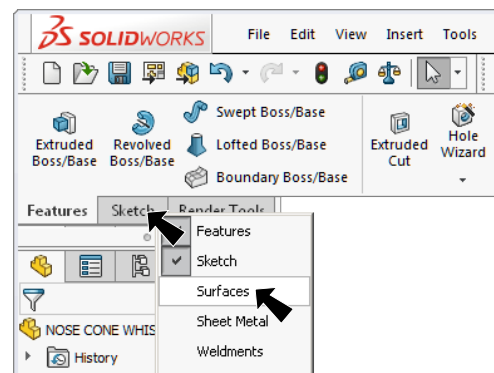

Fig. 64
Step 1. If necessary turn on **Surfaces** Command Manager. To turn on, right click **Sketch**  on the Command Manager toolbar and select **Surfaces**, Fig. 64.